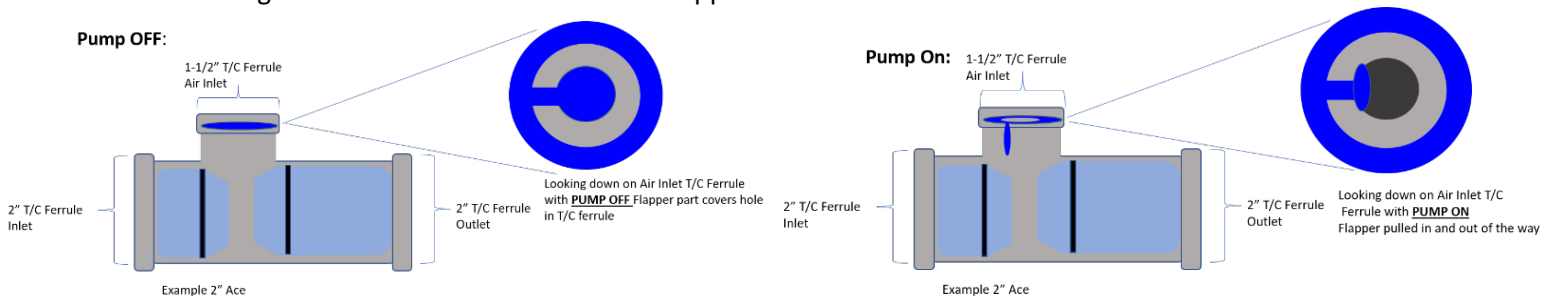

Figure 5: Flapper valve functionality with pump on and off.
- a. If using the flapper gasket, be sure that it can properly seal against the mating fitting placed above it. Most people using the 2" Ace use a 1" T/C, for example, while people using the 1-1/2" Ace commonly use a 1-1/2" x 1/2" NPT adapter. Sizing the air inlet tubing correctly is mandatory for proper flapper valve functionality, as the valve works by sealing against the mating tube (blocking it) whenever pressure within the Ace is larger than ambient. See figure 5 for a schematic of how the flapper valve works.